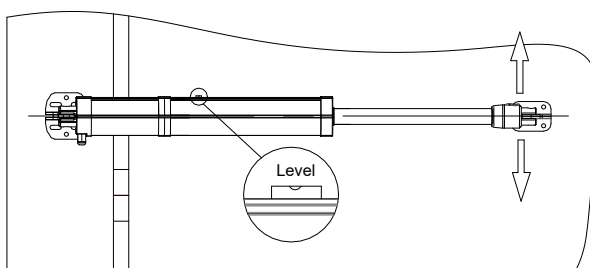

Fig.9
- Move the front part of gate operator up and down slowly, check the installation height of the gate bracket, fit the gate bracket to the gate, and use a level meter to check the flatness of the operator (See Fig.9). Tack weld the gate bracket on the gate, the bracket installation should meet the specifications as shown in Fig.4.
- After you have identified the desired position of the bracket, remove the gate operator, fix or weld the gate bracket on the gate permanently. See Fig.9.